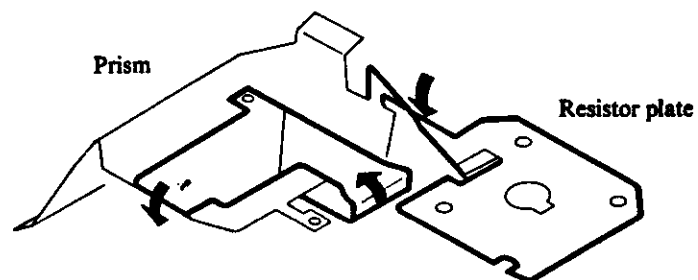

Fig. 30
- 4) Turn the ASA RESISTOR PLATE and assemble it as shown in Fig. 30.